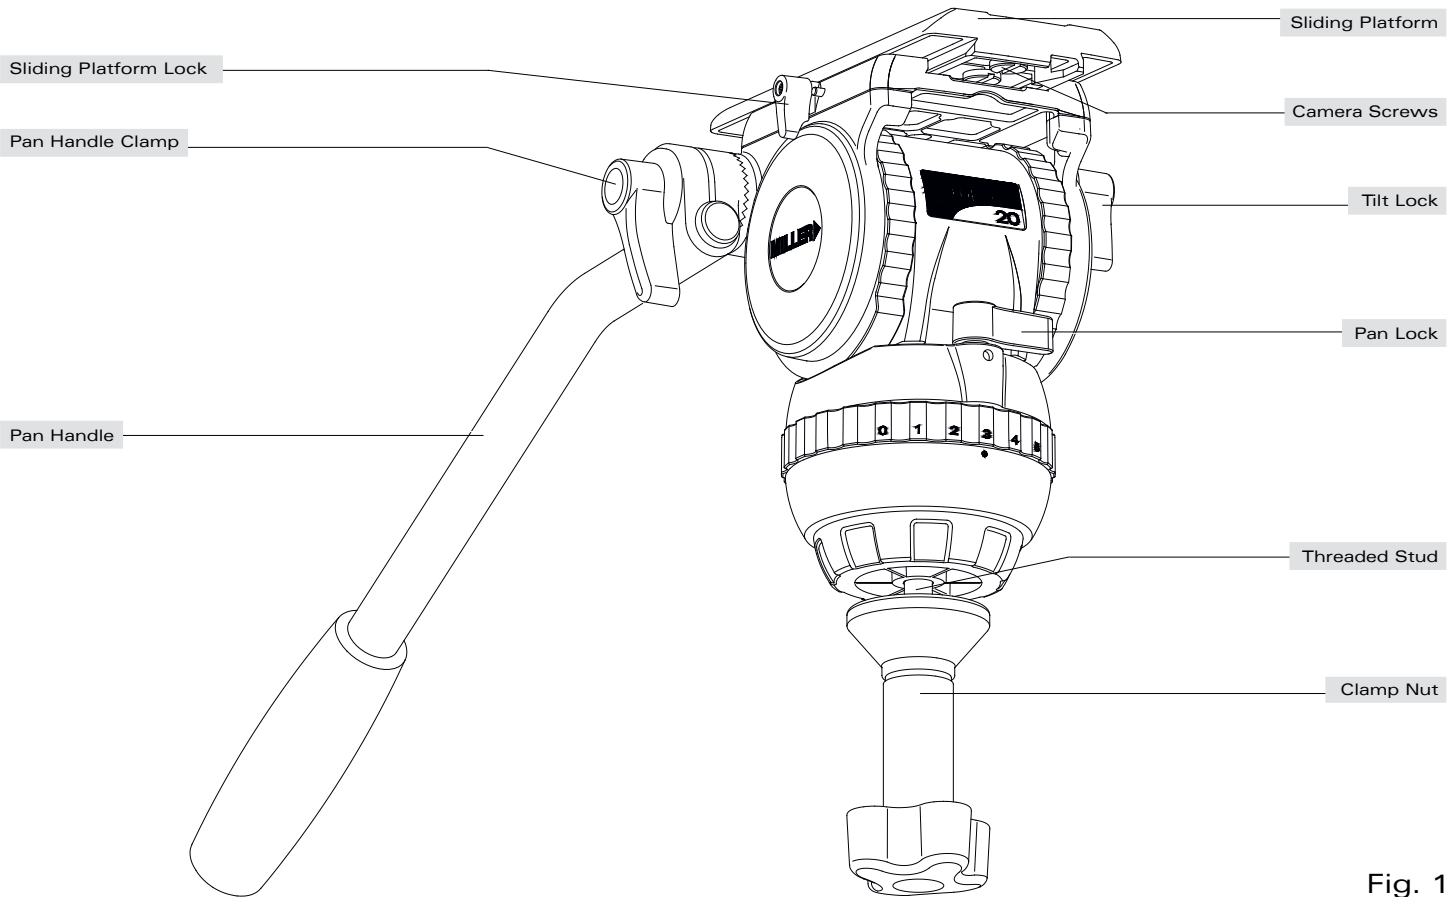

Fig. 1
- 1.3 Set the initial control settings as follows – see Figure 1 & 2:
- 2.2 Refer to the Camera's owners manual for correct method of attachment to the CAMERA PLATE. Inspect the CAMERA PLATE and remove the 1/4" and 3/8" screws (for HDV mount) or the 1/4" + PIN CARRIAGE (XDCAM/P2HD mount) as required. The 1/4" and 3/8" screws can be stored underneath the SLIDING PLATFORM (fig. 1).